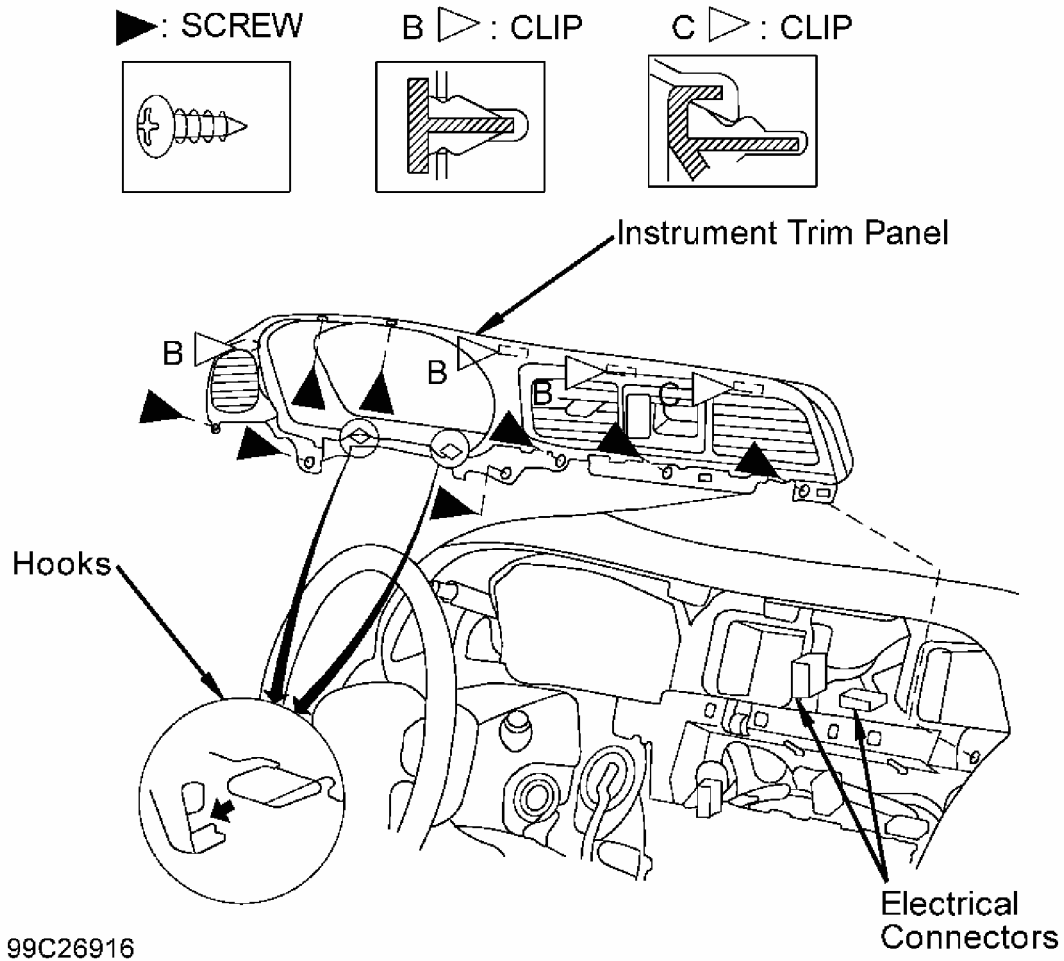
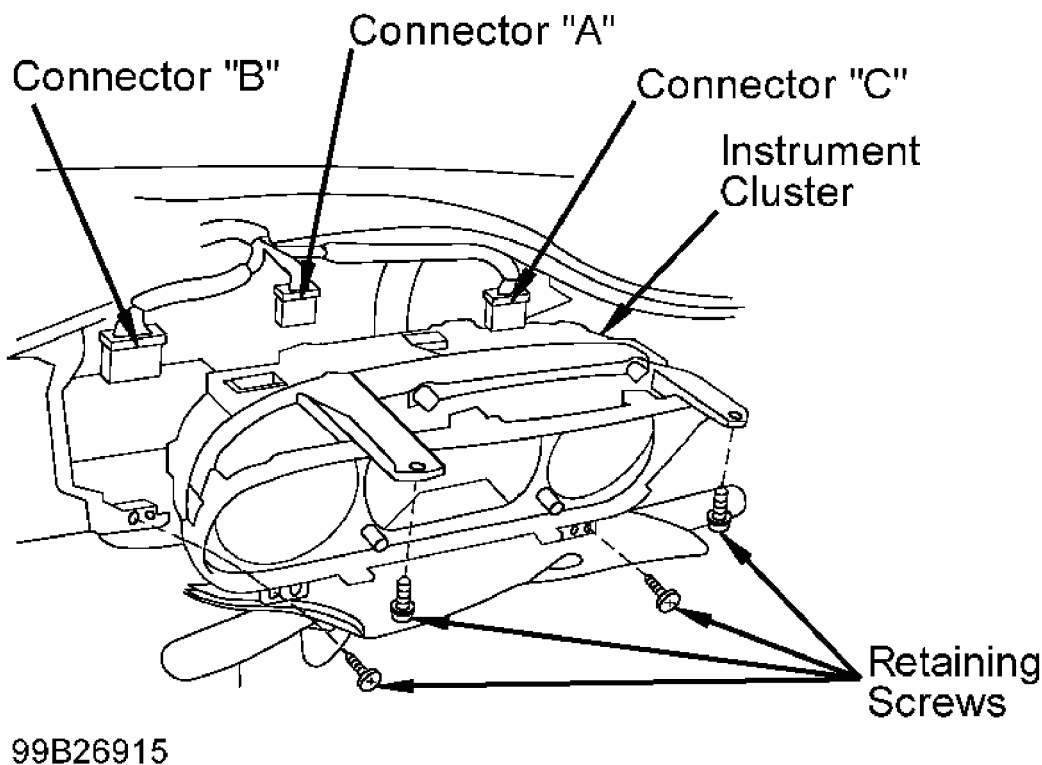

Fig. 18: Identifying Instrument Trim Panel
Fig. 19: Identifying Instrument Cluster
4. Lower tilt steering column to downward position. Remove instrument trim panel retaining screws. See **Fig. 18** . Gently pull out on top of instrument trim panel to release retaining clips. Disconnect instrument trim panel electrical connectors and remove trim panel. Remove instrument cluster retaining screws. See **Fig. 19** . Disconnect instrument cluster electrical connectors and remove instrument cluster